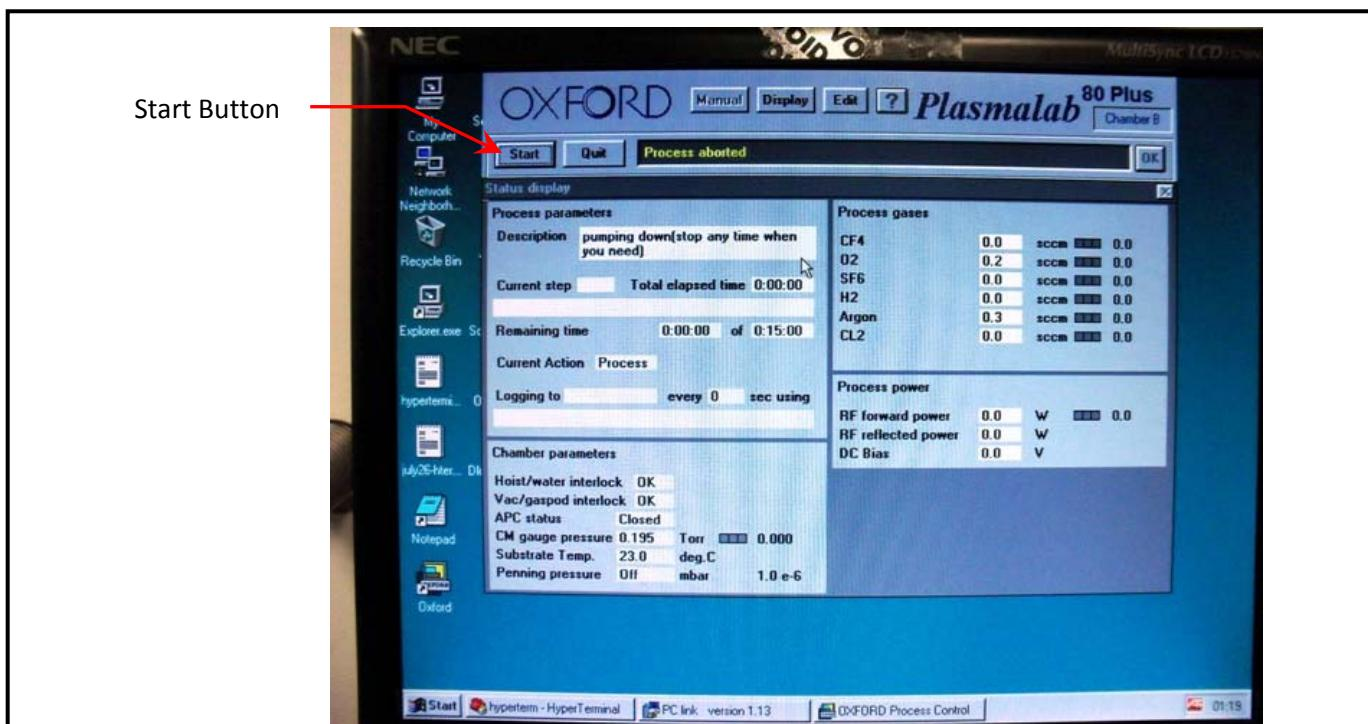

Figure 5, Start Button
| Figure 5, Start Button | 5 |
- 7.1.3 Click Start. See *Figure 5, Start Button*.